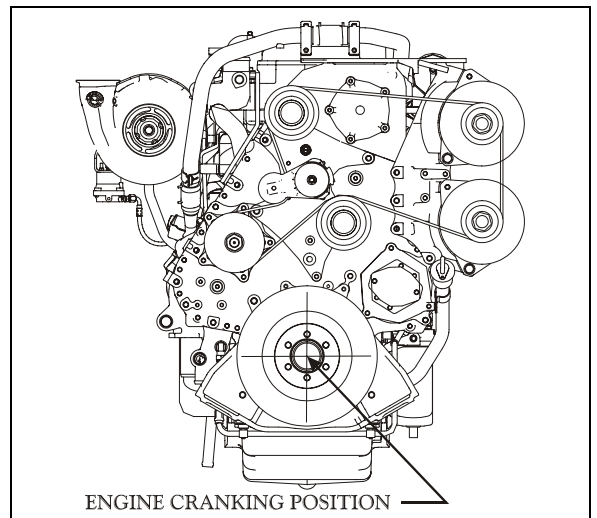

FIGURE 10: ENGINE CRANKING POSITION 01153
14. Remove the access plug from the flywheel housing on the R.H. side below starter. From access plug, remove the 12 converter-to-flexible plate attaching screws. Cranking the engine to gain access to the attaching screws may be done by turning the crankshaft pulley using a suitable adapter (fig. 10).